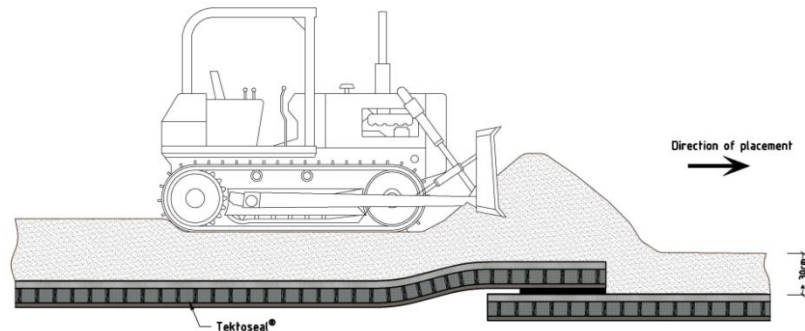

Fig. 9: Direction of soil placement
- The end-tipping procedure, with placement in the direction of the overlaps, shall be adopted (Fig. 9). (This avoids displacement and contamination of the joints between liners).